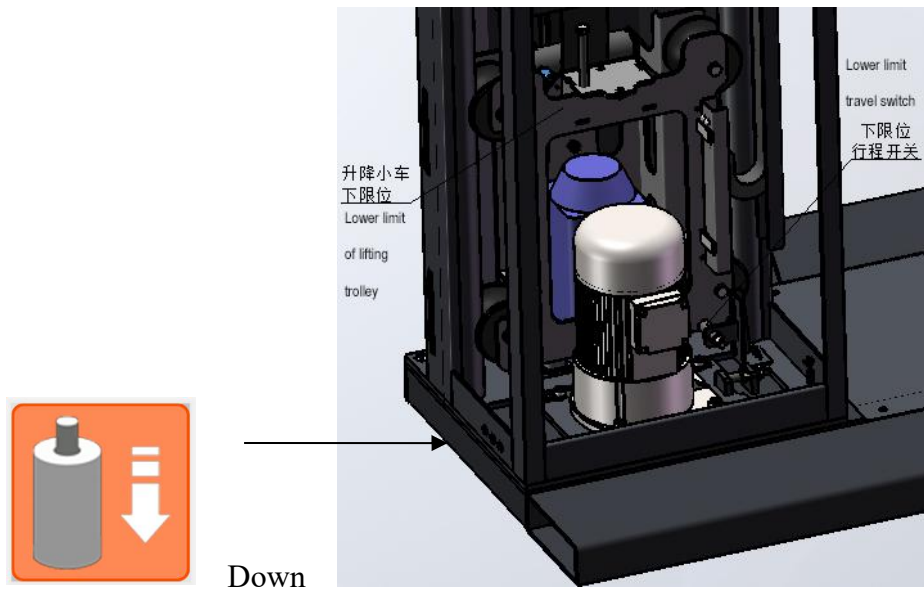

Figure. 4.7 The trolley is reset to the lower limit
(1) Unlock the trolley from the column reinforcement plate and descend to the lower limit (Figure 4.7)